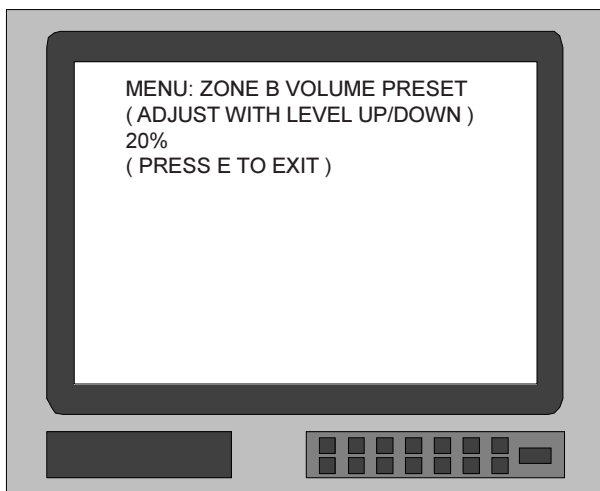

Figure 20
2. Press Number 8 pushbutton on the Remote Control to access **ZONE B VOLUME PRESET MENU**, which will appear on the screen. Refer to Figure 20.